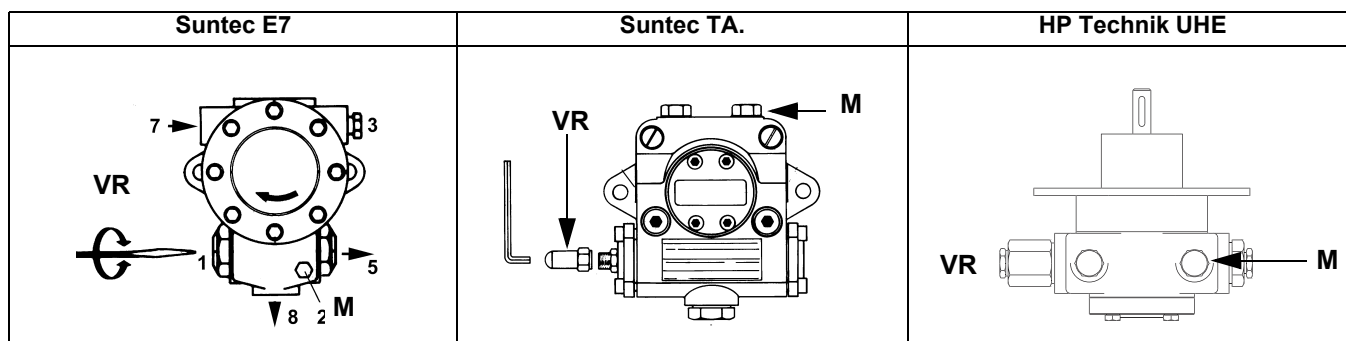
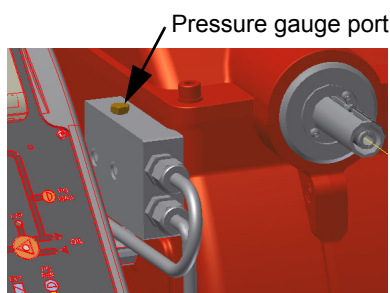

Fig. 26
Fig. 27
- 3 bleed the air from the **M** pressure gauge port (Fig. 26) by loosening the cap without removing it, then release the contactor.
- 5 Only if necessary, adjust the supply pressure as follows (see related paragraph); insert a pressure gauge into the port shown on Fig. 27 and act on on the pump adjusting screw **VR** (see Fig. 26) as to get the nozzle pressure at 20bar (Monarch or Fluidics nozzles - see page 41-38).